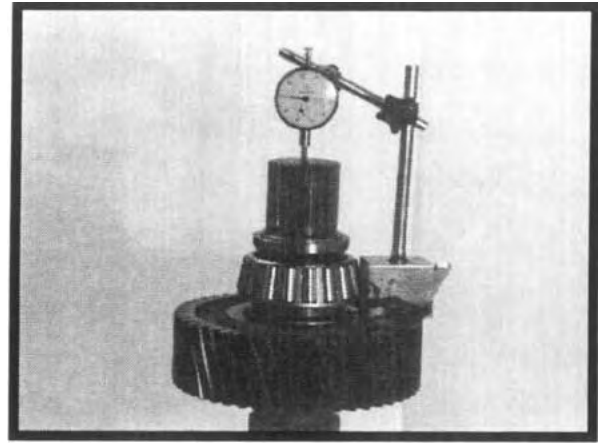

Figure 4.12
- To facilitate reassembly, the gear end float on the shaft should be checked prior to disassembly. Install a dial indicator with a magnetic base as pictured in Figure 4.12. Lift upward on the gear and note the amount of end float. The specified amount of end float is between .000 and .002 inches. A greater amount usually indicates worn bearings.